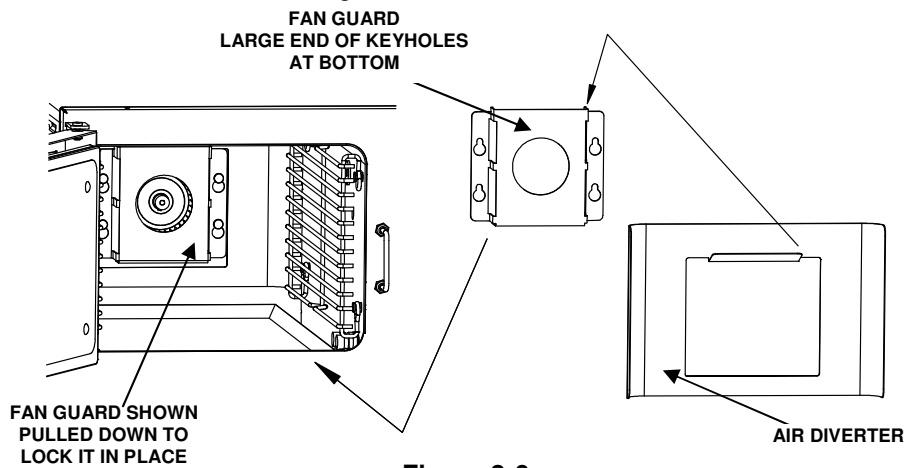

Figure 3-6
- See Figure 3-6
3. Pull it down so that the narrow ends of the slots are pulled tight over the mounts. See Figure 3-6.